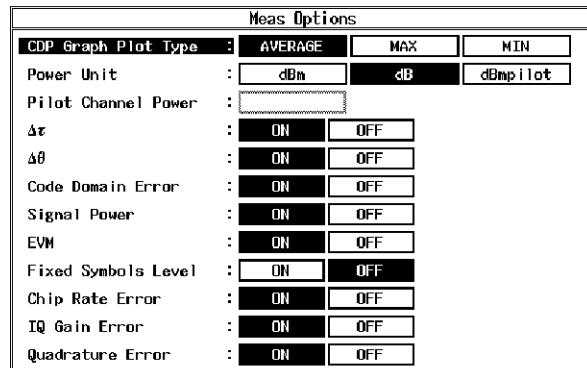

Figure 6-4 Setting of Measurement Options for Code Domain Power (FORWARD Link)
7. On the R3267 Series, set measurement options as shown in Figure 6-4.